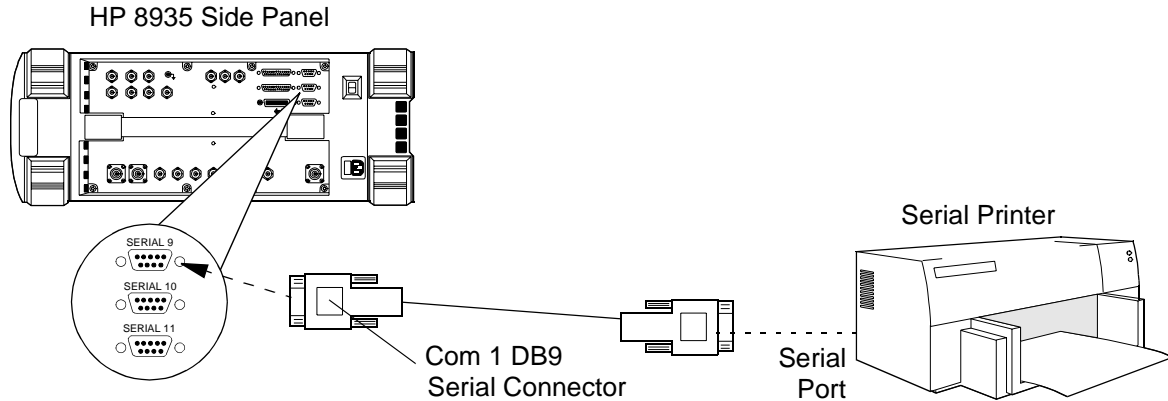

Figure 38 Test Set to Serial Printer Connection
5. Connect the serial printer to the Test Set's SERIAL 9 port (see figure 38 on page 111).